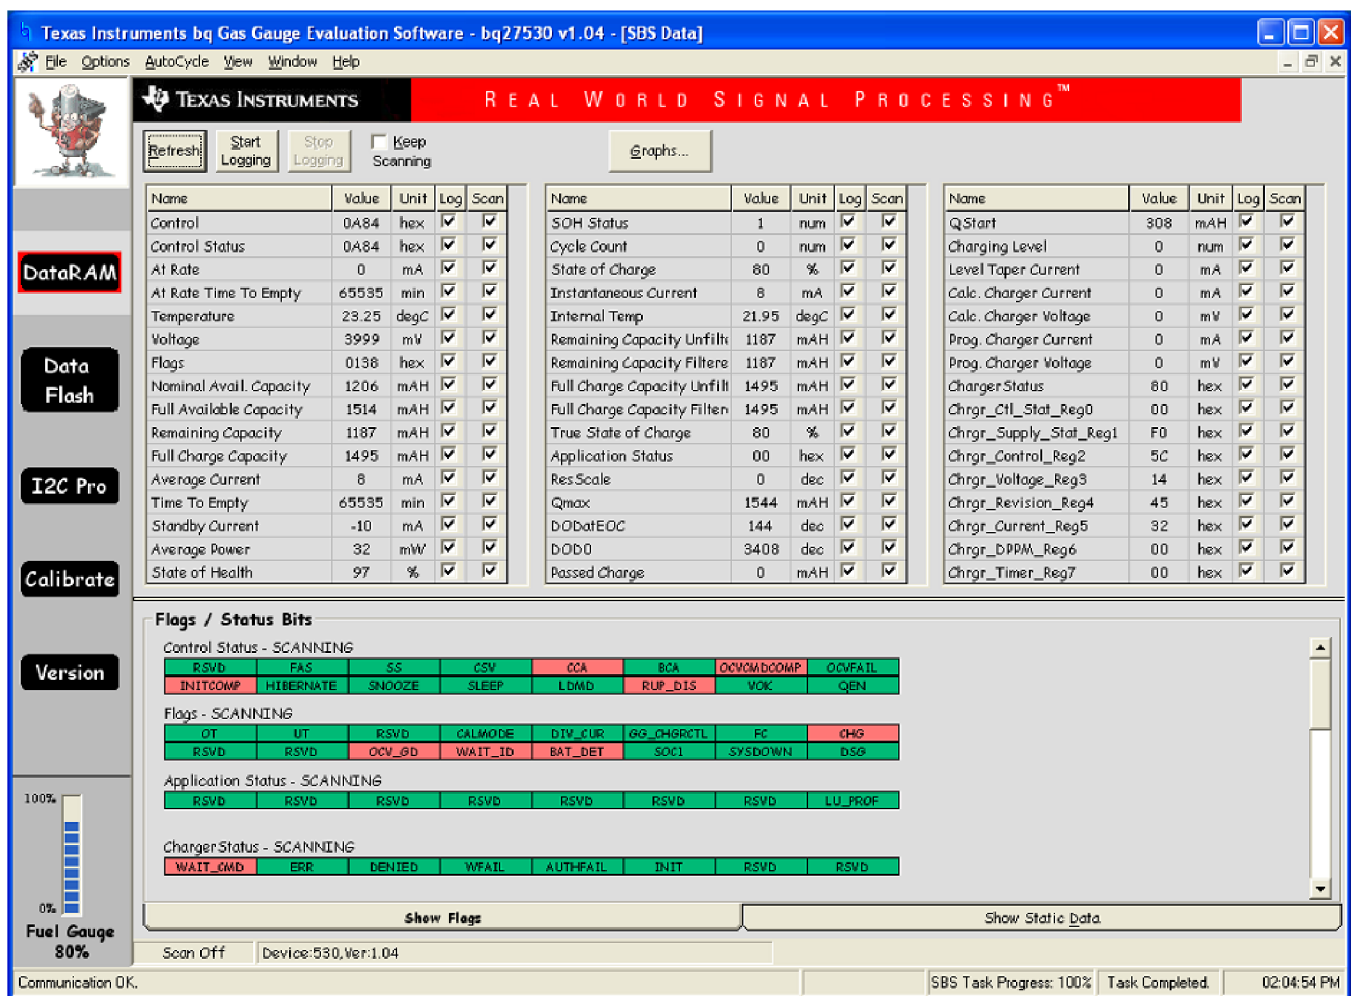

Figure 9. DataRAM Screen
- Turn on the computer. Open the bq27530 evaluation software. The main window of the software is shown in Figure 9 (DataRAM Screen)
Run bq27530 EVSW from the Start | Programs | Texas Instruments | bq Evaluation Software menu sequence. The DataRAM screen (Figure 9) appears. Data begins to appear once the <Refresh> (single time scan) button is clicked, or when the <Keep Scanning> check box is checked. To disable the scan feature, deselect <Keep Scanning>.
This screen (Figure 9) shows the RAM data set. Additional Flag and Status data can be viewed at the bottom of the DataRAM screen.